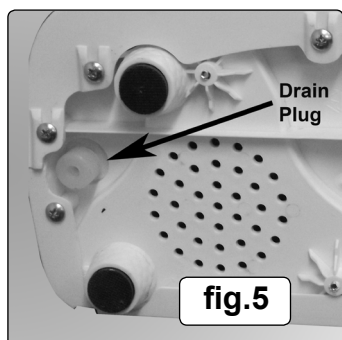
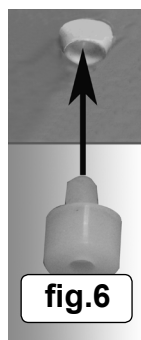

fig.5
fig.6
4.4.2. Remove the nylon drain plug from the base of the machine (fig.5), and place plug in tank inlet (fig.6)
4.4.3. Push the drain hose onto the drain connection (fig.6).